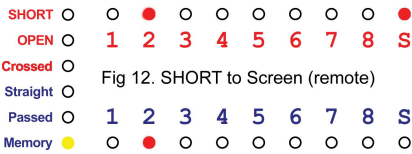

Fig 12. SHORT to Screen (remote)
c) A short to SCREEN, this may be indicated by one, or both the screen LED's being ON in conjunction with another pair of LED's (Fig12).